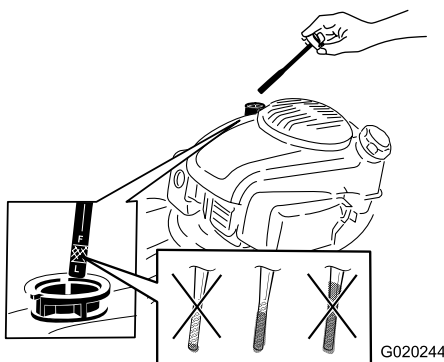

Figure 6
2. Remove the dipstick by rotating the cap counterclockwise and pulling it out (Figure 6).
5. Read the oil level on the dipstick (Figure 6).